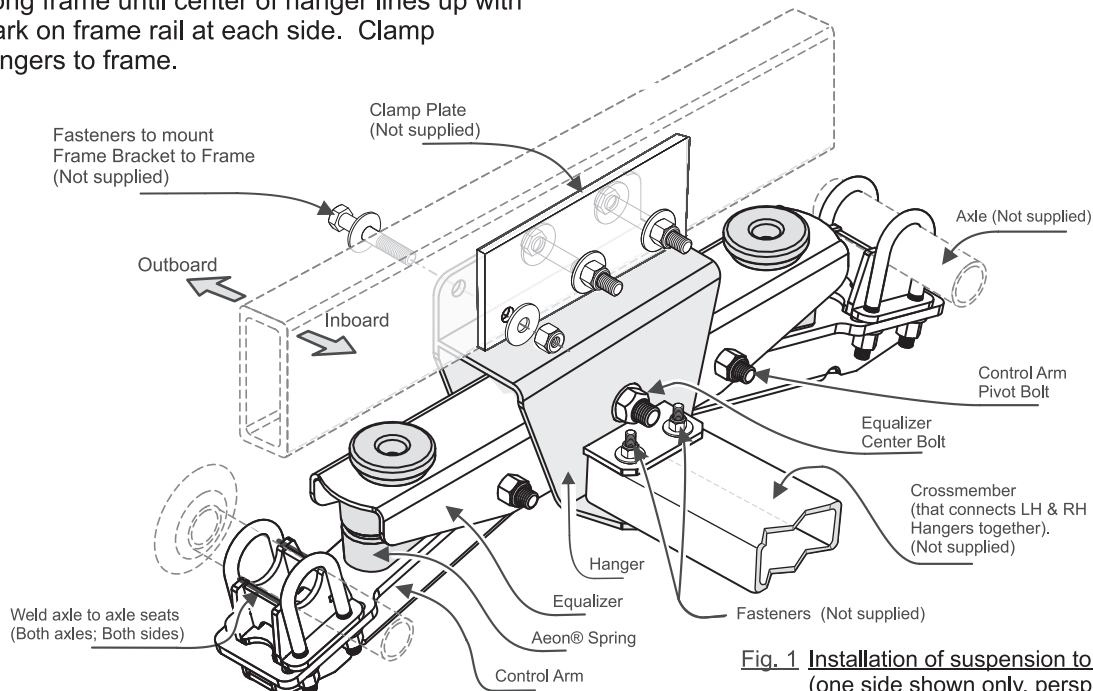

Fig. 1 Installation of suspension to trailer frame (one side shown only, perspective view from inboard)
2. Locate hangers on frame rails, opposite to each other. Mate inboard corner faces of each hanger with outboard corner faces of its corresponding frame rail (fig. 1). Move hangers along frame until center of hanger lines up with mark on frame rail at each side. Clamp hangers to frame.
4. Make a crossmember and install it between hangers: material is 2"X4"X1/4" Hollow Structural Steel, ASTM A500 Grade C or G40.21 Grade 350W. Saw cut tube to the following length: The measured outside to outside width of trailer frame less 10". Lift crossmember and locate it between hangers. Insert each end of tube in between the two tabs of a hanger. Slide to center crossmember. Make sure hangers are vertical and crossmember is horizontal. Tack weld and then weld crossmember to hanger tabs all around tabs. Crossmember can also be bolted to hangers in case welding is not practical or not preferred: use four 1/2" bolts, 3-1/2" long together with lock nuts and washers (fig 1). Use holes of tabs as templates to locate and drill holes in the tube.
7. Weld axle seats to axles (along axle only), as shown in fig. 1. Use 1/4" fillet weld.